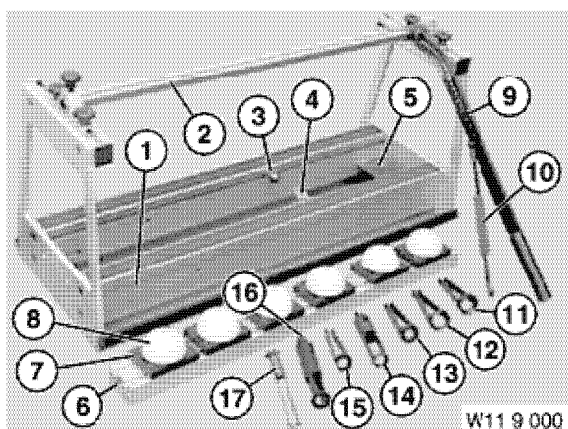

Figure 5-19
1. Attach cylinder head to special tool OEM No. 11 9 000 (Figure 5-19).